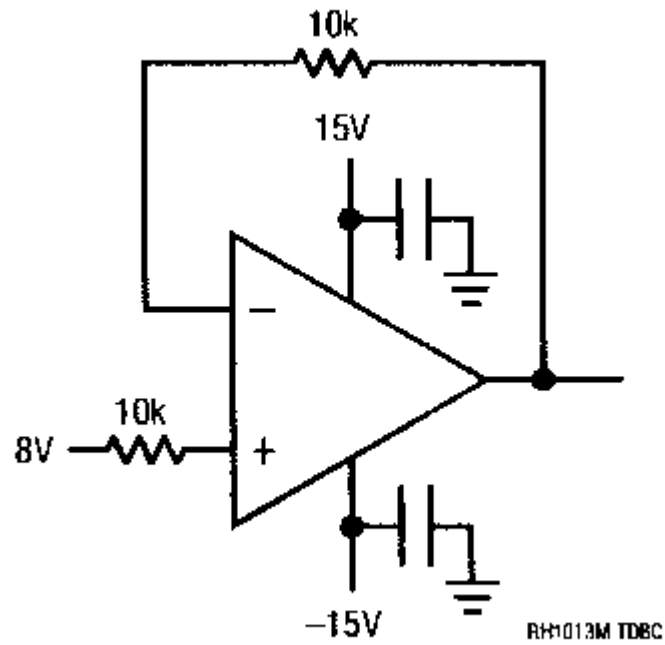

FIGURE 2
- 3.7.3 Total dose bias circuit is specified in **Figure 2**.